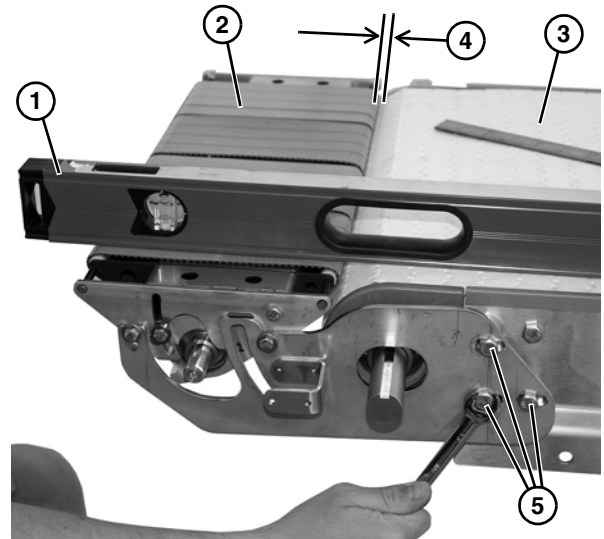

Figure 43
2. To adjust location, place level (**Figure 43, item 1**) or straight edge to level power transfer assembly (**Figure 43, item 2**) with conveyor belt (**Figure 43, item 3**). Be certain that there is a minimum 1/8 - 1/4 in. distance (**Figure 43, item 4**) between power transfer and conveyor belt, and tighten three bolts (**Figure 43, item 5**) to secure position.